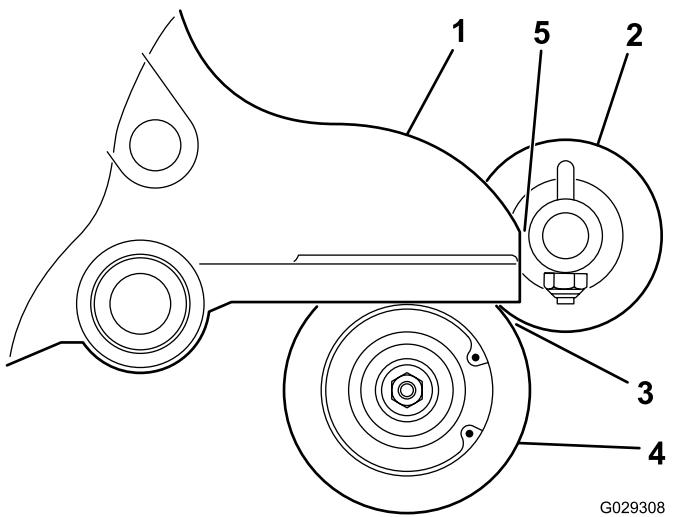

Figure 14
16. Position the roller brush so that it just touches the rear roller (Figure 14).